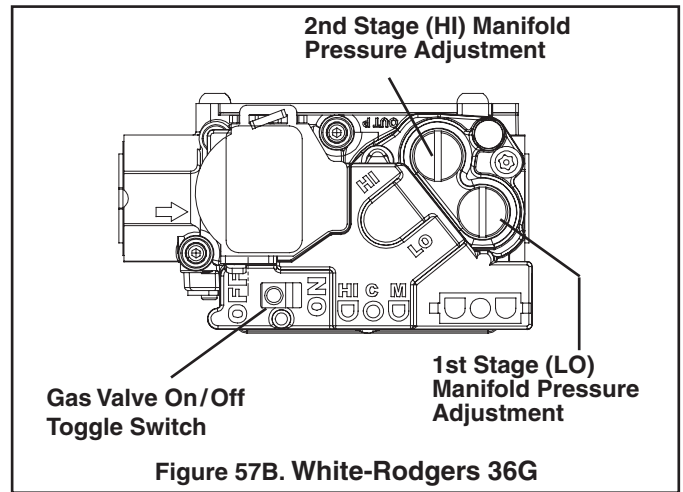
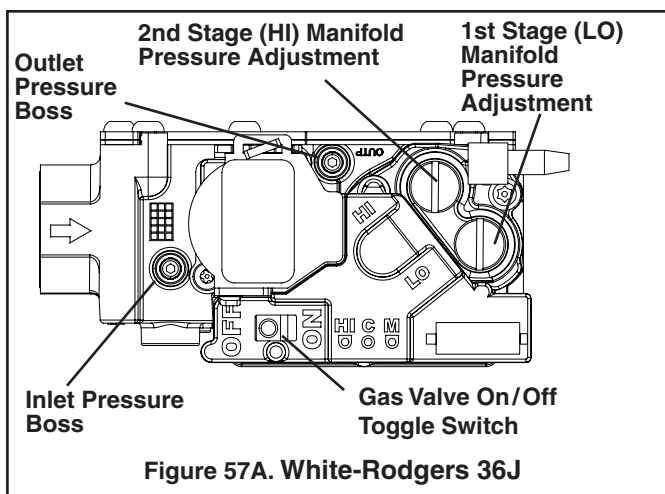

Figure 57B. White-Rodgers 36G
Figure 57A. White-Rodgers 36J
2. Attach a manifold pressure gauge with flexible tubing to the outlet pressure boss marked "OUT P" on White-Rodgers gas valve model 36G or 36J. See Figure 57A for White-Rodgers gas valve model 36J. See Figure 57B for White-Rodgers gas valve model 36G.